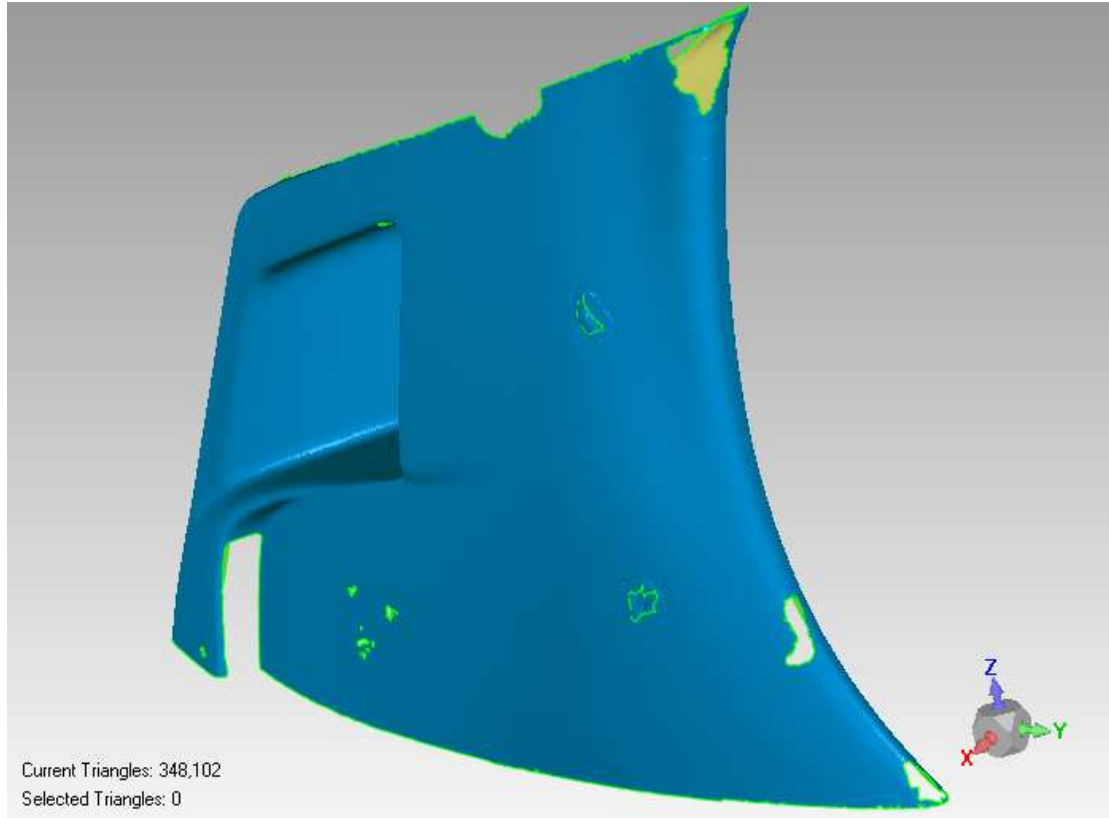

Figure 81
- The fairing should appear similar to **Figure 81**.